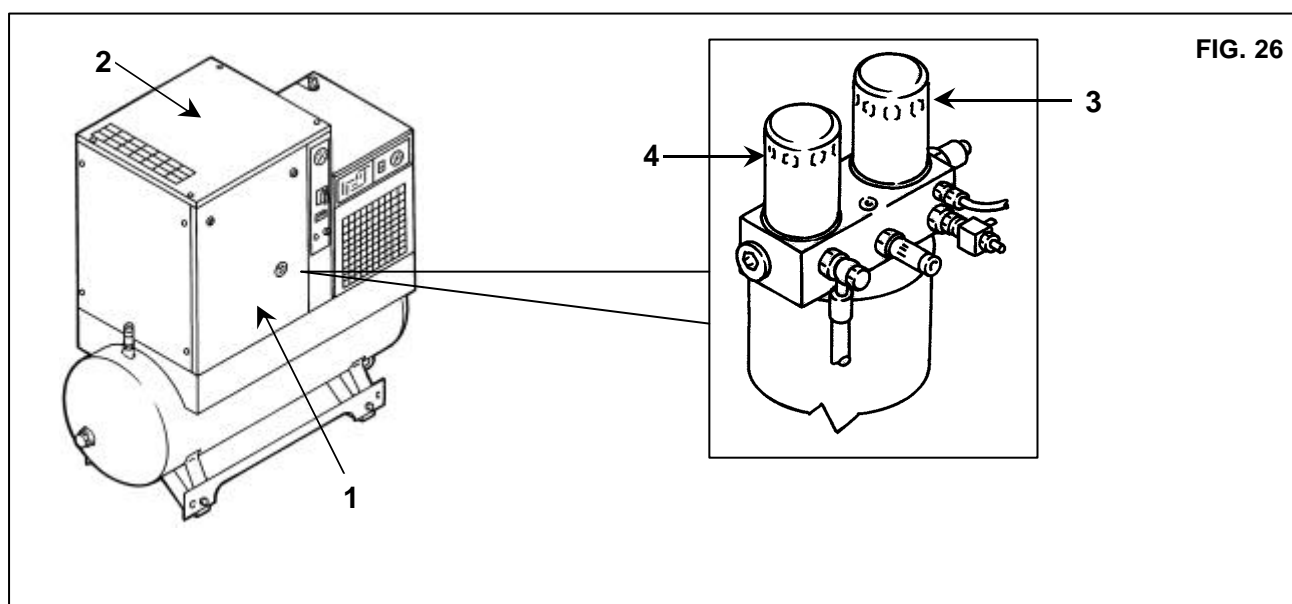

FIG. 26
- Open the front panel Ref. 1 Fig. 26 with the special key.
- Remove the fixed protection device (machine cover) Ref. 2 Fig. 26.
- Remove the oil separation filter Ref. 3 and oil filter Ref. 4 Fig. 26
- Close the fixed protection (machine cover) Ref. 2 Fig. 26 device again, using the appropriate safety screws.
- Close the panel Ref. 1 Fig. 26.